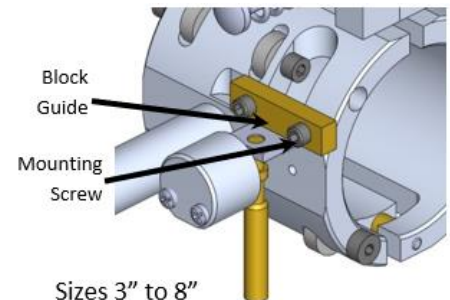

Fig 4
5. Insert the Screws (E) (Fig 4).